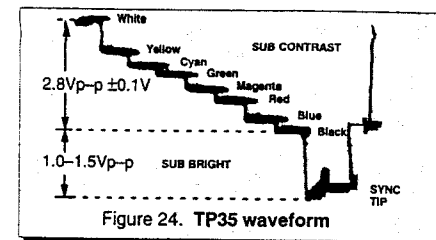

Figure 24. TP35 waveform
1. In the Serviceman Mode for electronic adjustments, select DAC Sub-Brightness Adjustment (B2) and adjust for 1.0-1.5Vp-p between blanking and 7.5 IRE level so that the black level cannot be compressed. (see video waveforms detail, Figure 24).
2. In the Serviceman Mode for electronic adjustments, select DAC Sub-Contrast Adjustment (B3) and adjust for 2.8Vp-p  $\pm$  0.1V from white level to black level on video waveform (see video waveforms detail, Figure 24).